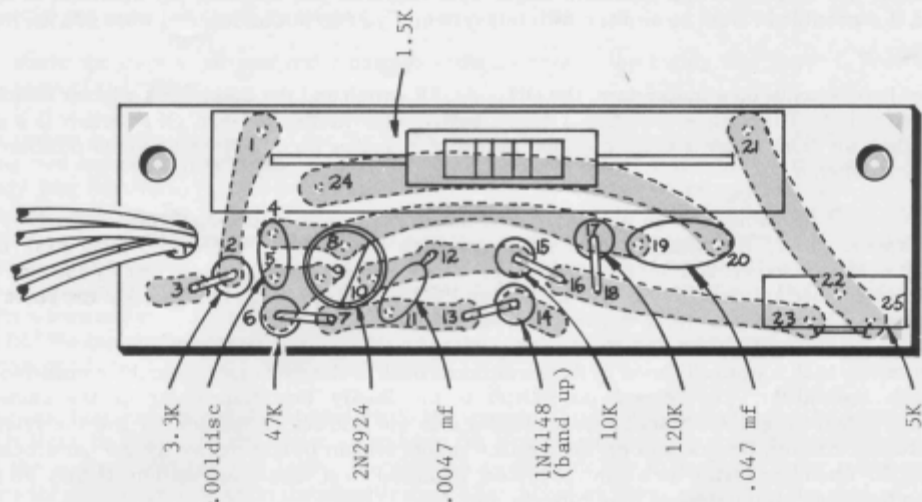

Fig. 1 Part Placement
ASSEMBLY STEPS (Ref. fig. 1)
Install the components on the printed circuit board in accordance with Fig. 1. Add wires as shown in Fig. 5. Mount circuit board on top of case using two 2/56 x 1" bolts, spacers, nuts. See Figs. 3 and 4.
3. Please refer to Fig. 1. The transmitter that goes with the Flight Pak in the training airplane is the master or instructor's transmitter.